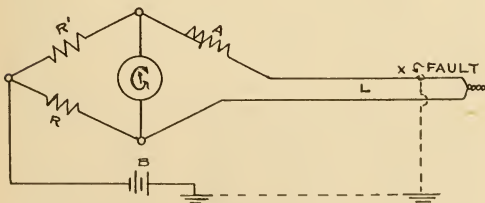

FIG. 2.
method to measuring line resistance. In Fig. 2 two line wires to be tested for the ground fault are substituted for (X) in Fig. 1. In this case the battery is grounded, which is exactly the same as connecting it to the point of fault in the wire. The far ends of the two line wires are twisted together. The variable resist-